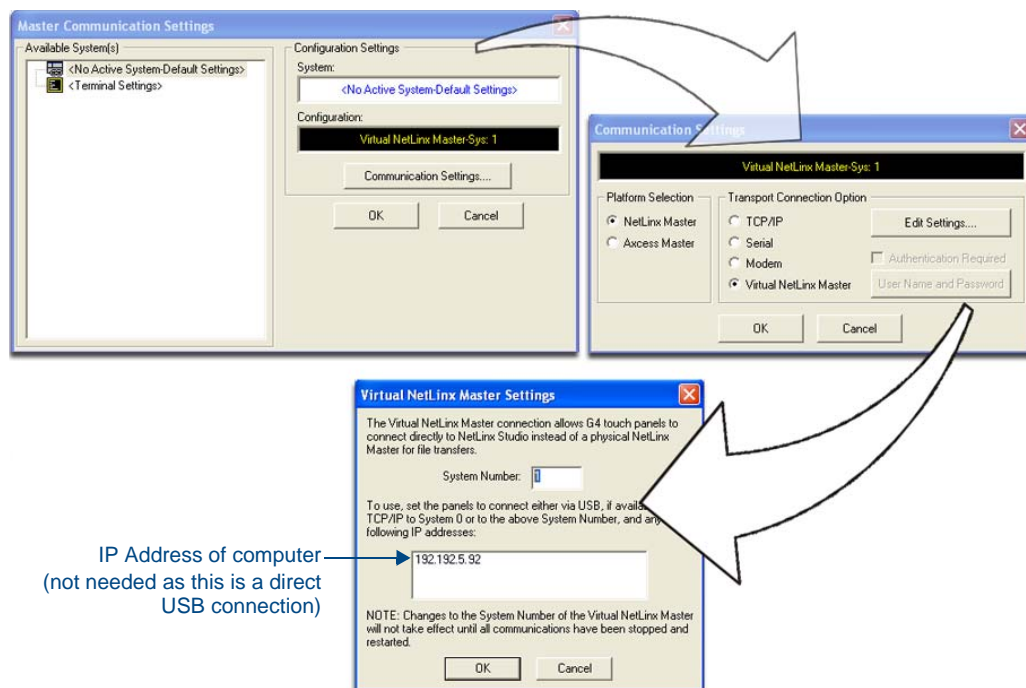

FIG. 56 Assigning Communication Settings for a Virtual Master
3. Select **Settings > Master Communication Settings**, from the Main menu to open the Master Communication Settings dialog (FIG. 56).
7. Click the **Edit Settings** button (*on the Communications Settings dialog*) to open the Virtual NetLinX Master Settings dialog (FIG. 56).